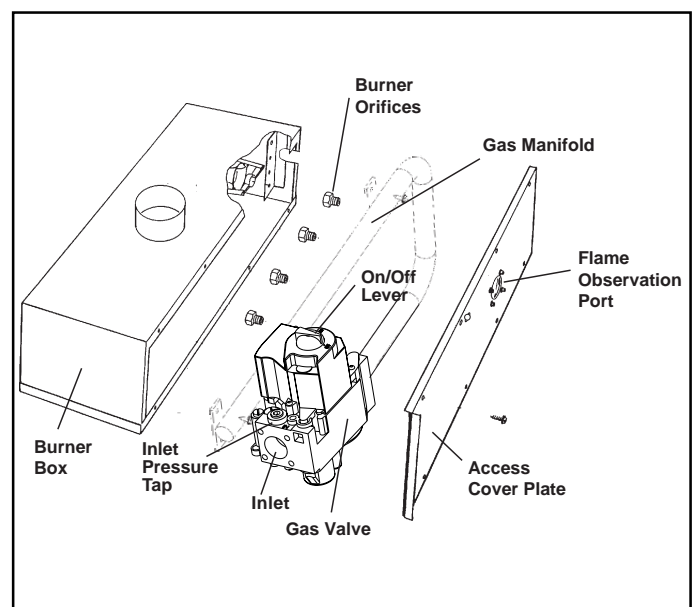

Figure 2. Typical Installation For Sealed Burner Box With Access Cover Plate
5. If present, disconnect the rubber pressure tubes from the gas valve and the burner box. Note: pressure tubes are present only in units with a sealed burner box, which is shown in Figure 2.
6. If present, remove the burner access cover plate from the burner box. Note: the burner access cover plate is present only in units with a sealed burner box, which is shown in Figure 2.
1. Reinstall the gas manifold assembly to the burner box with the four (4) fasteners, which were removed earlier.
5. Reconnect the rubber pressure tubes to the gas valve and the burner box. Reinstall the burner access cover plate. Note that this step is only for the sealed burner box, which is shown in Figure 2.